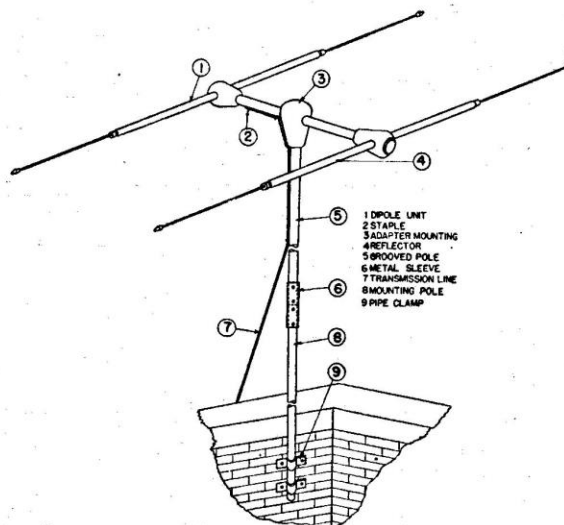

Fig. 2. Dipole and Reflector Assembly
The reflector proper (4) (see Fig. 2) is very similar to the dipole unit, differing from it only in that it has no external connections. It is a continuous electrical conductor running parallel to the dipole and is loaded at the center by an inductance of a few turns of solid wire.